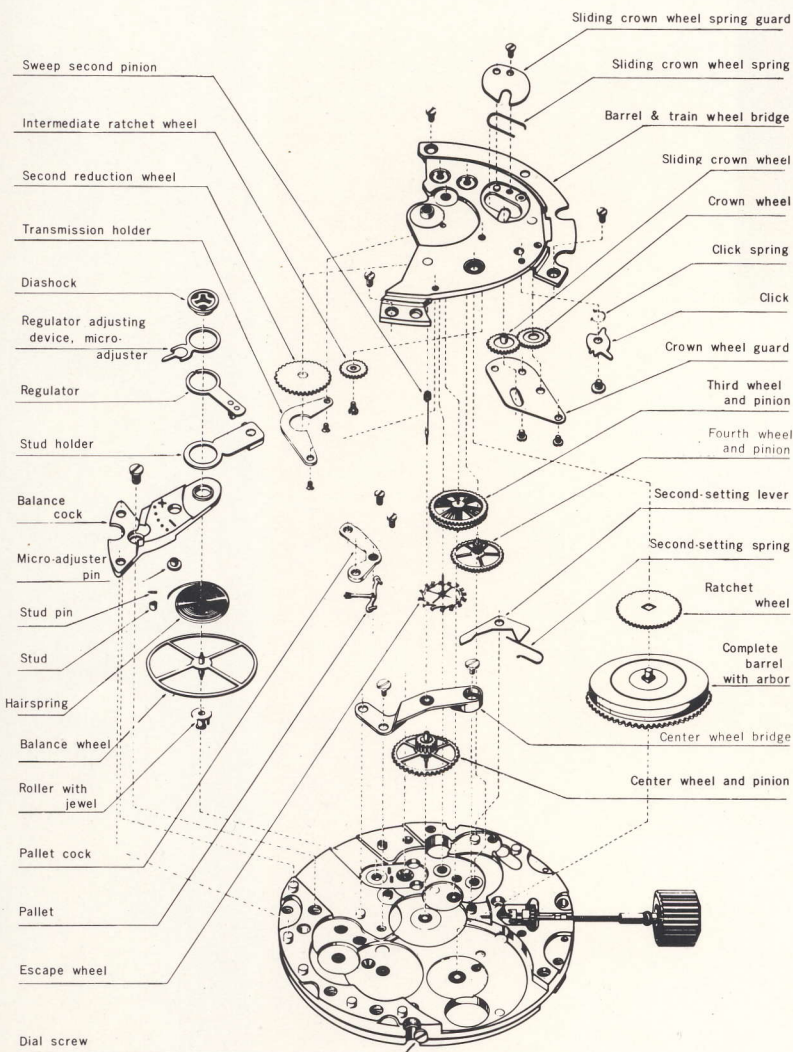

Fig. 14
5)-1 Exploded view of basic movement (Fig. 14, 15)